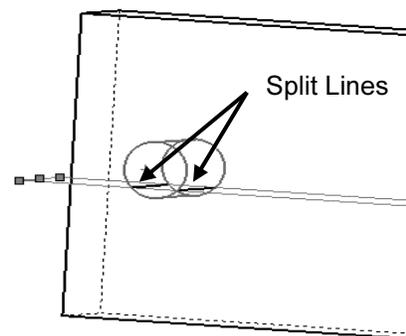

Figure 10 – Close-up view of hole showing *Split Lines* near bottom of hole.
- Next, click inside the **Faces/Bodies to Split** field. This field may already be active (salmon color). Then move the cursor over the model and select the *inside surface* of the hole. It may be necessary to zoom-in on the model to select this surface. Once selected, **Face<1>** appears in the active field. Figure 10 shows a partial image of the model with *Split Lines* appearing where **Plane1** intersects the bottom of the hole.